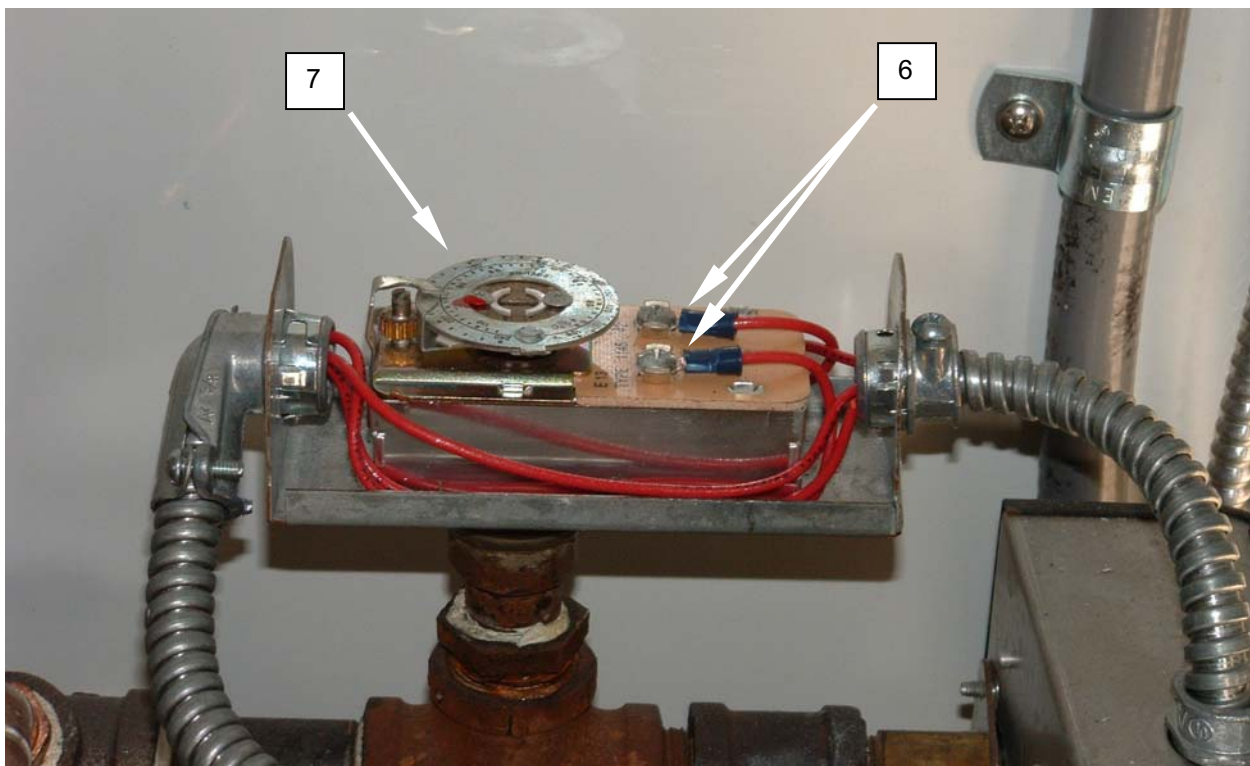

Figure 3. Test the Thermostat.
2. Slide the thermostat cover (**Figure 3, Item 5**) up and remove the cover.
3. Tag and disconnect the wiring from the thermostat terminals (**Figure 3, Item 6**).
4. Ensure the dial (**Figure 3, Item 7**) has been set for approximately 205 °F.
5. Use an ohmmeter to test for continuity between the two terminals (**Figure 3, Item 6**). There should be continuity between the two terminals.
6. Reconnect the wiring to the terminals (**Figure 3, Item 6**) as tagged.
7. Install the thermostat cover (**Figure 3, Item 5**).